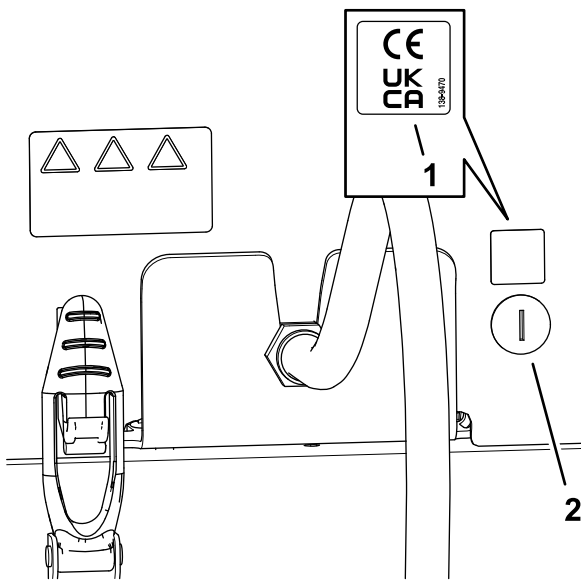

Figure 35
1. Use rubbing alcohol and a clean rag to clean the area of the hood next to the hood lock, and allow the hood to dry. (Figure 35).